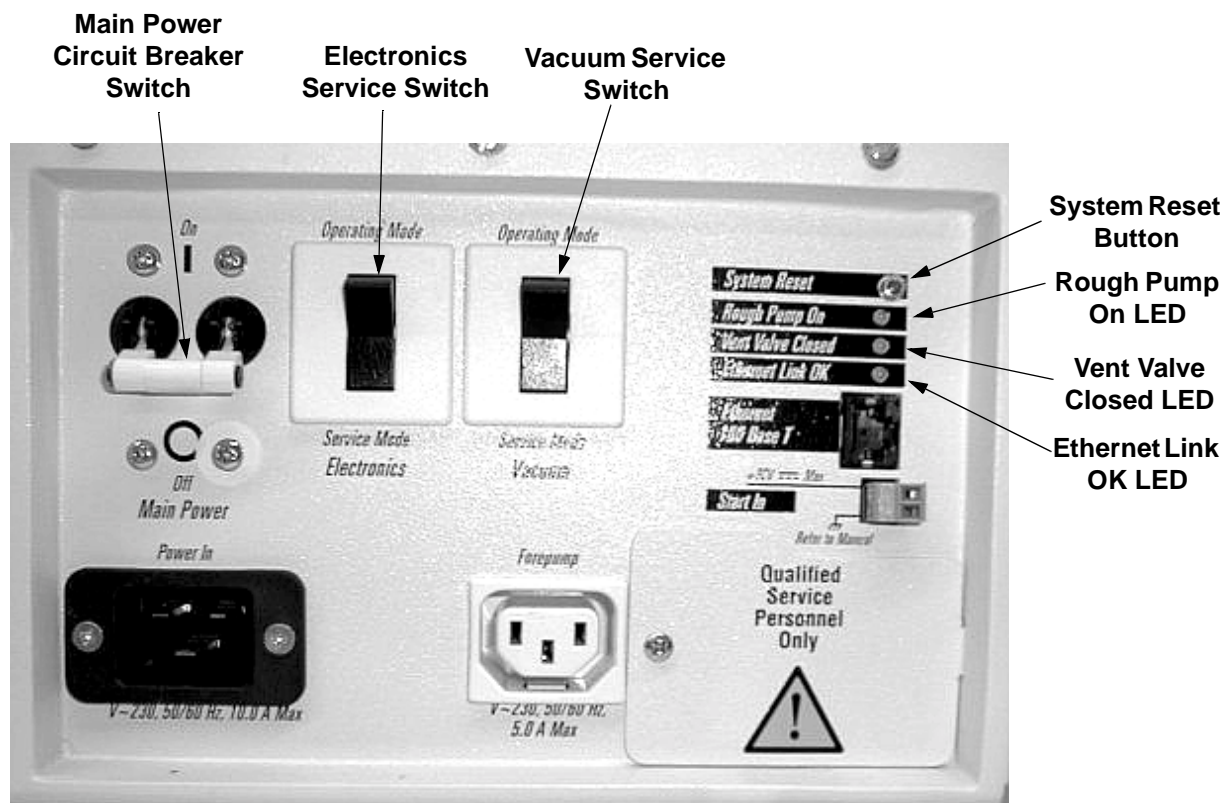

Figure 2-6. Power panel, showing switches and LEDs
The **main power circuit breaker switch** (labeled *Main Power*) is located on the power panel at the lower right corner of the right side panel of the mass spectrometer. See Figure 2-6. In the Off (O) position, the circuit breaker removes all power to the mass spectrometer, including the vacuum pumps. In the On (I) position, power is supplied to the mass spectrometer. In the standard operational mode, the circuit breaker is kept in the On (I) position.
The **electronics service switch** (labeled *Service*) is located next to the main power circuit breaker on the power panel (Figure 2-6). In the Service Mode position the switch removes power to all components of the mass spectrometer other than the vacuum system. In the Operating Mode position power is supplied to all non-vacuum system components of the mass spectrometer.
The **vacuum service switch** (labeled *Vacuum*) is located next to the electronics Service switch on the power panel (Figure 2-6). In the Service Mode position the switch removes power to the rotary-vane pump, turbomolecular pump, 24 V power supply, cooling fans, Vent Delay PCB, and vent valve. The vent valve then opens after a delay time. In the Operating position power is supplied to the rotary-vane pump, turbomolecular pump, 24 V power supply, cooling fans, and Vent Delay PCB. The vent valve is then closed.